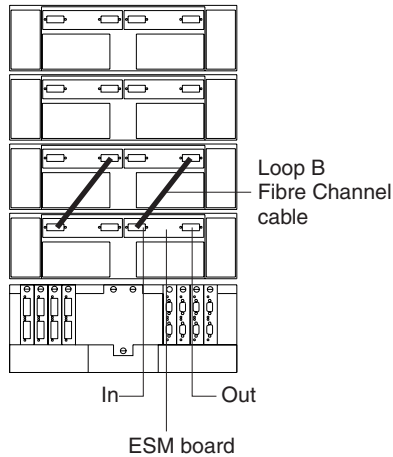

Figure 44. Connecting two storage expansion enclosures into redundant drive loop B
2. Connect the same first two storage expansion enclosures to drive loop B, as shown in Figure 44 on page 48.